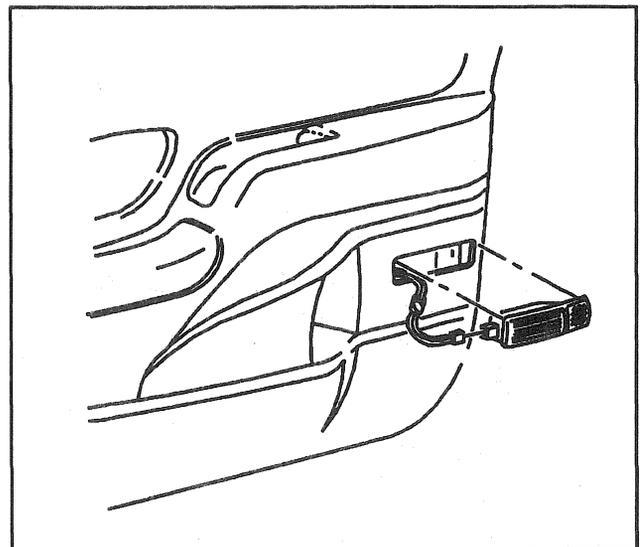

Figure 6—Front Door Trim Panel Courtesy Lamp
8. Retainers from trim panel (Figure 6).
1. Retainers to trim panel (Figure 6).